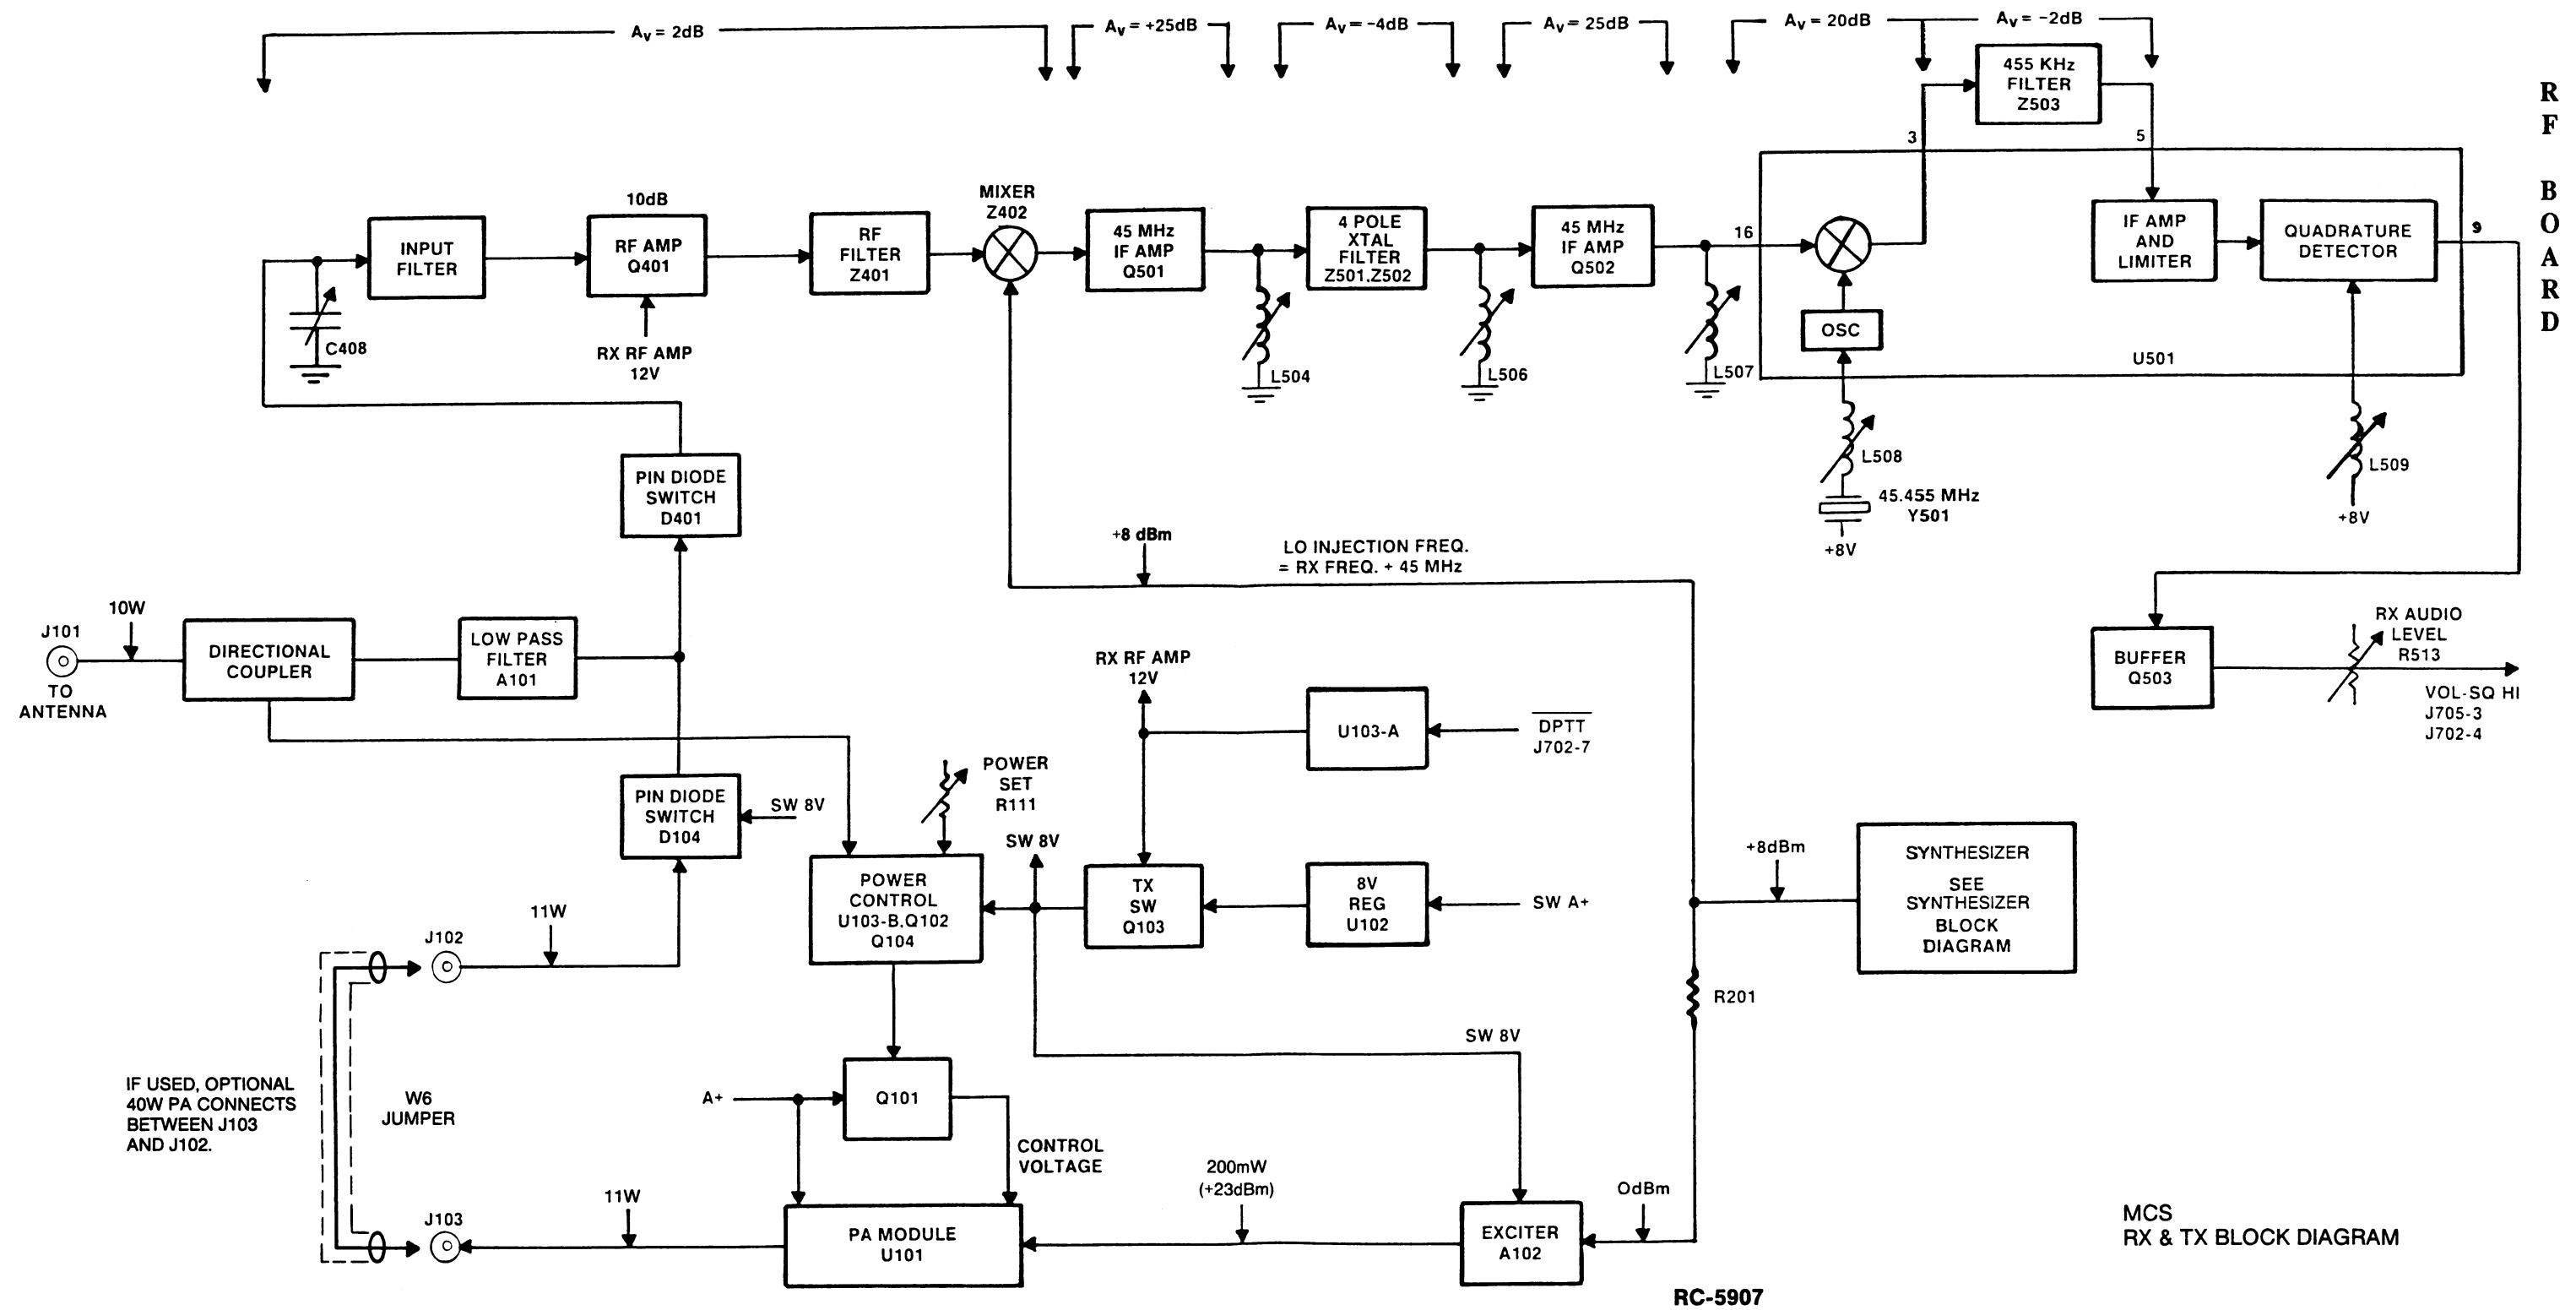
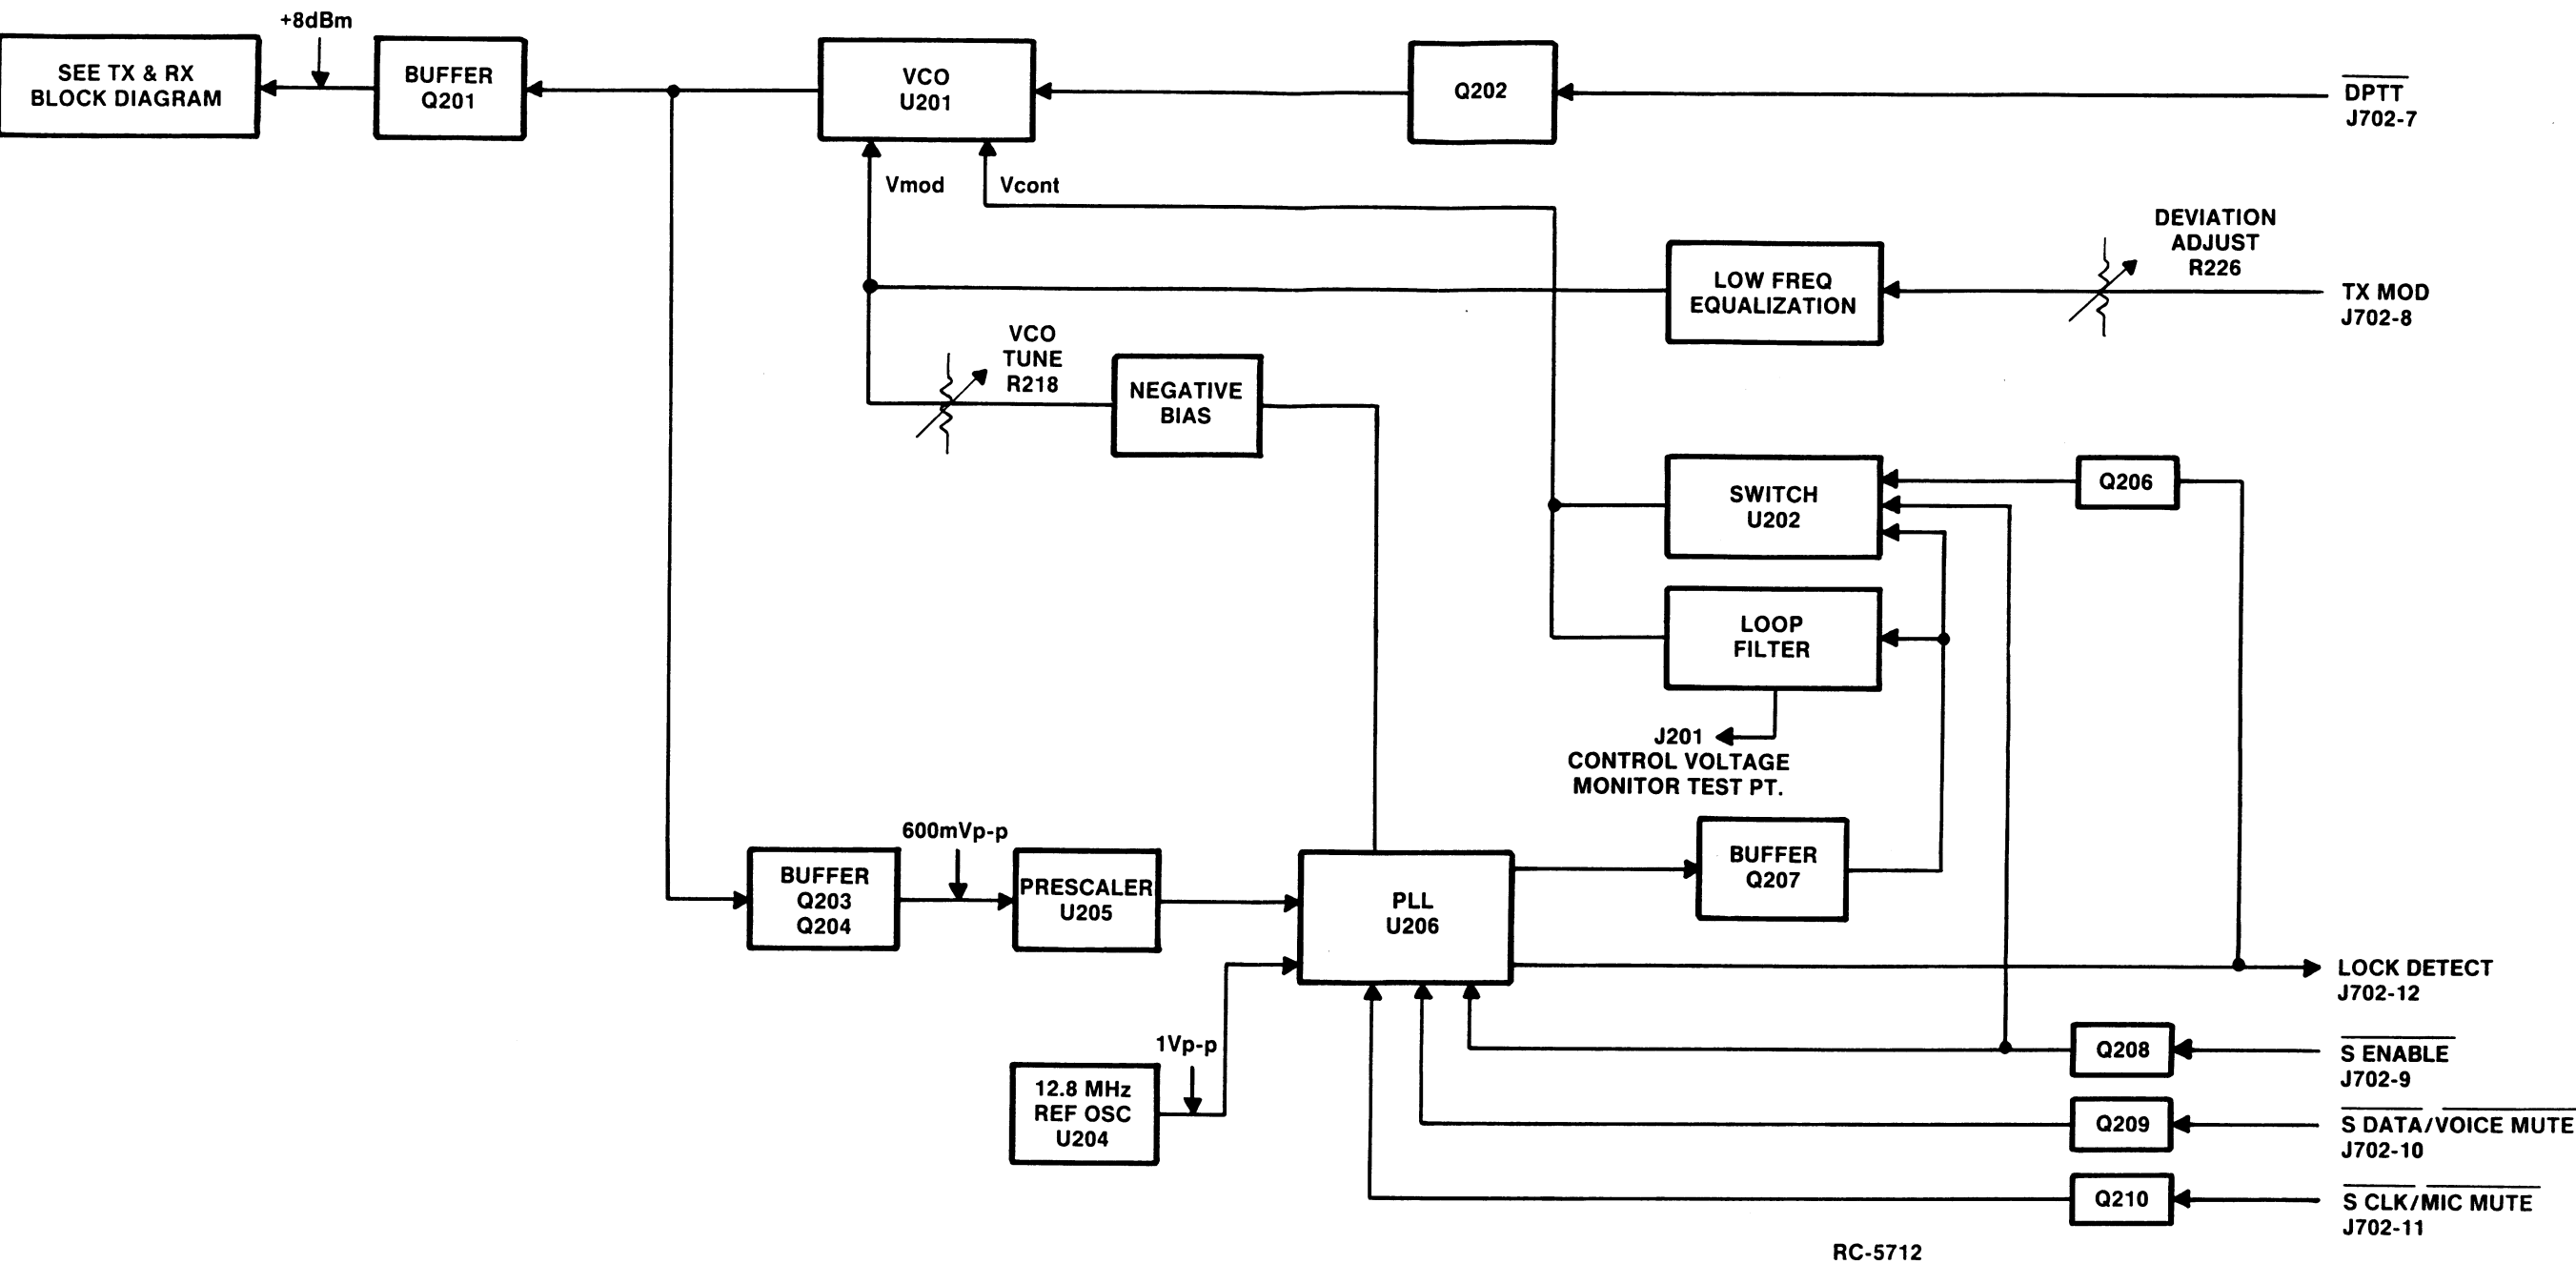

FIGURE 1 - RECEIVE AND TRANSMIT BLOCK DIAGRAM
FIGURE 2 - SYNTHESIZER BLOCK DIAGRAM
The RF Board is mounted in the bottom of the frame assembly. Refer to Combination Manual for a mechanical layout of the radio. Figure 1 provides a block diagram of the receive and transmit circuits. Figure 2 provides a block diagram of the synthesizer.
Most transmitter circuit problems can be isolated by checking the TX power gains shown in Figure 1 - RX and TX Block Diagram. The PA module U101 is capable of producing 10 watts output.
• Poor SINAD	<ol style="list-style-type: none"> 1. Consult Figure 1 - RX and TX Block Diagram for RX stage gains and troubleshoot 2. Input cable 3. PIN Diode switch is shorted.